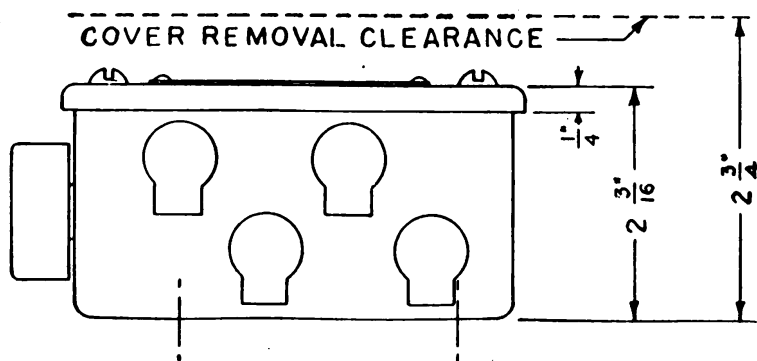

**FIGURE 4.—Jack box BC-379.**
*d. Jack box BC-379* (right sponson loader) (fig. 4).—This unit consists of a sheet steel box approximately 4 inches long x 2 inches wide x 2 inches deep, and a cover. On this box are mounted: one 10,000-ohm wire-wound potentiometer for volume control; two jacks, one for a headset, and one (not wired) for a microphone. In the box is mounted a 6-point terminal block which connects the unit to the rest of the system.